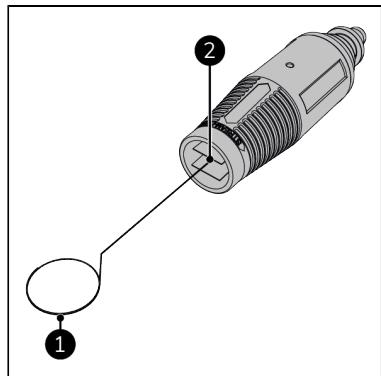

Figure 43.
4. Clean the nozzle with the cleaning pin (Figure 43, pos. 1).